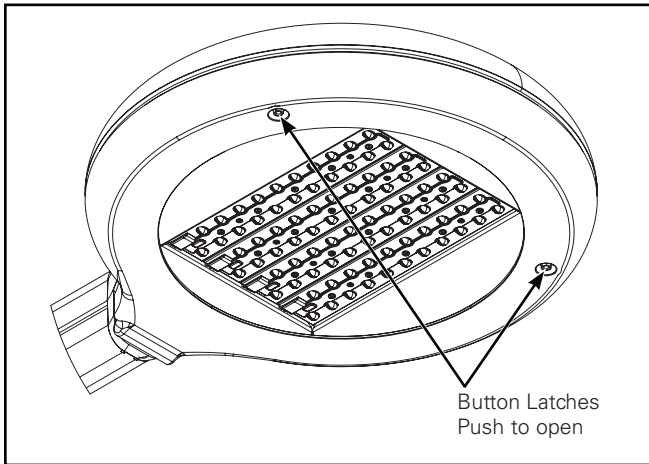

Figure 1.
Attaching Arm to Pole (Figure 1 – 2.)
1. Open door and press both button latches at the same time and open door. (Figure 1.)